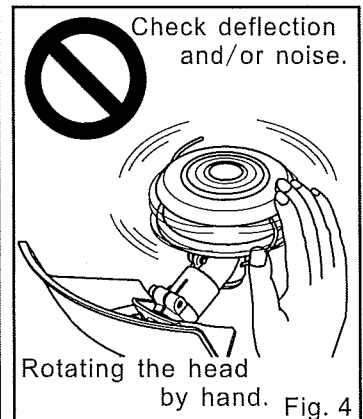

Fig. 4
- Be certain that your M-Twist is installed properly before operating. Rotate the head by hand prior to starting the engine to ensure proper installation. An unbalanced head will result in high levels of vibration and possible disengagement from your machine. (Fig.4)